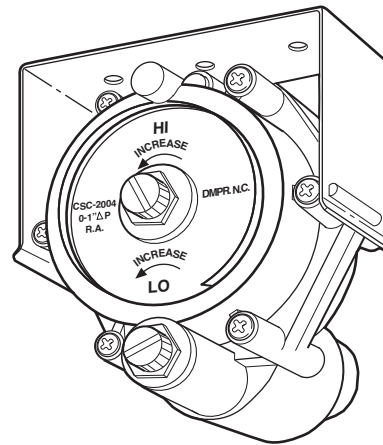

Fig. 10 — Pneumatic Volume Controller (Normally Closed) for 35EP Unit (Grey Color)
- b. Adjust the maximum volume control knob (marked “HI” and located in the center of the controller) shown in Fig. 10 to achieve the required minimum flow.